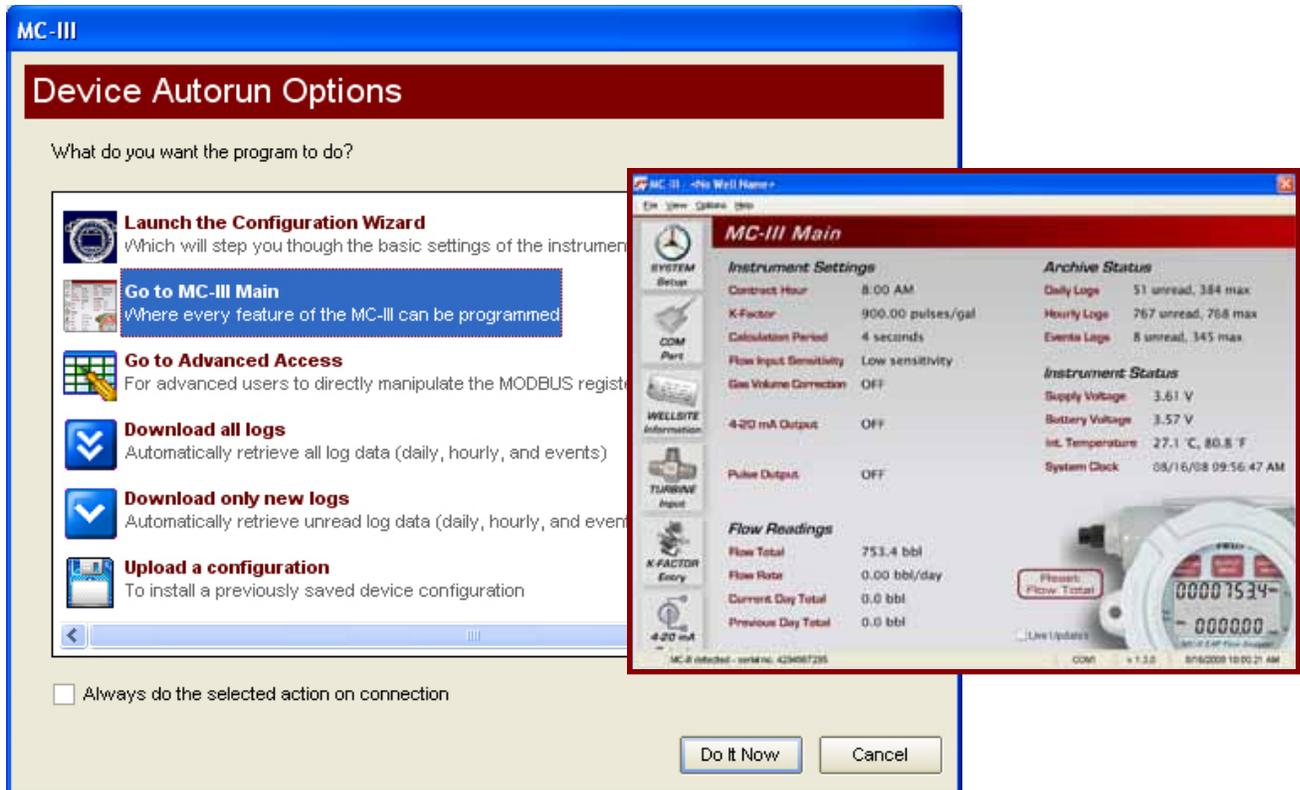

Figure 4.12—MC-III Main configuration option for complete access to configurable parameters
- The MC-III Main screen (Figure 4.12, page 45) gives users complete access to all configuration parameters.